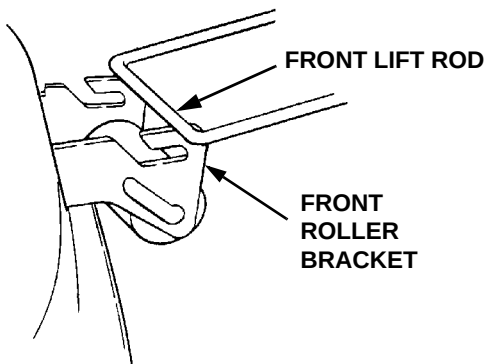

Figure 6-15
7. Raise the tractor implement lift handle to its highest setting. Roll the mower deck forward until the front lift rod slides up and out of the openings of both front roller bracket slots. Manually lift the rod out of the slots if necessary (Refer to Figure 6-15).
8. Raise the front lift rod upward and slide the mower deck rearward. Lower the front lift rod so it rests on the front roller bracket of the deck, forward of the slots (See Figure 6-15).